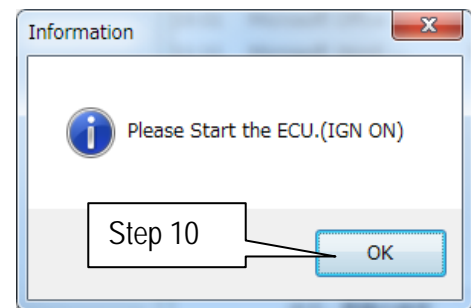

Figure 4
- After selecting OK in Figure 4, the OCS reprogramming will start.